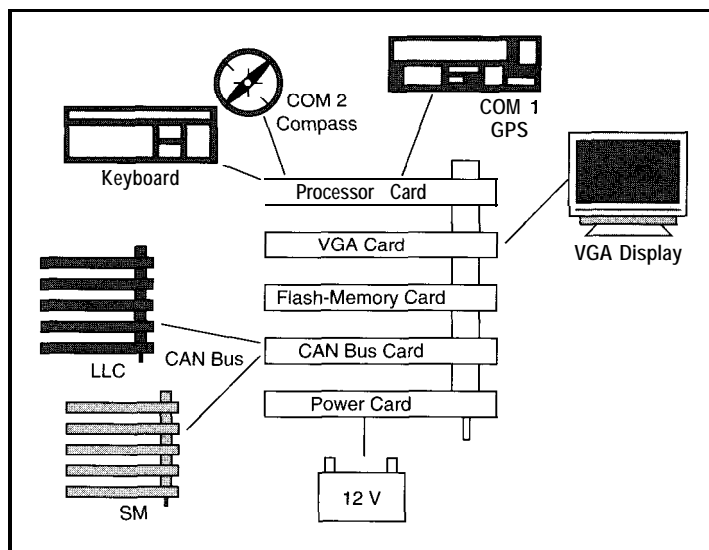

Figure 3: The Activities Manager collects positional information from the compass and GPS to broadcast on the CAN bus.
In effect, the Activities Manager (AM) replaces the human operator. It plans activity (e.g., which trench to dig first) and navigation and is diagrammed in Figure 3.